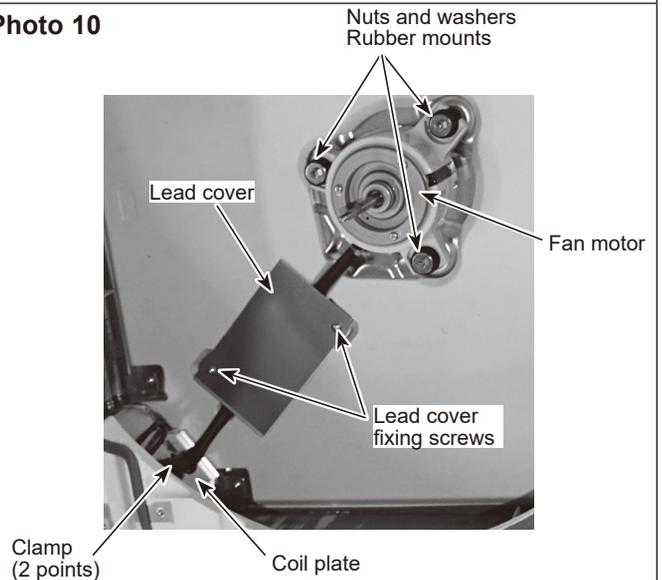

Figure 4
- (1) Remove the electrical box fixing cover. (See Photo 1.)
- (2) Disconnect the connector for vane motor (CNV: White). (Refer to procedure 5.)
- (3) Loosen the 4 corner panel fixing screws (tapping screw 4×16). (See Figure 4.)
- (4) Slide the corner panel to the direction of the arrow ①, and remove the corner panel. (See Figure 4.)
- (5) Remove the 4 installation screws (M5×28). (See Photo 11.)
- (6) Release the 2 temporary hanging hooks to remove the grille. (See Photo 12.)